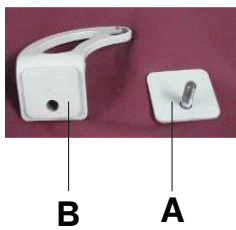
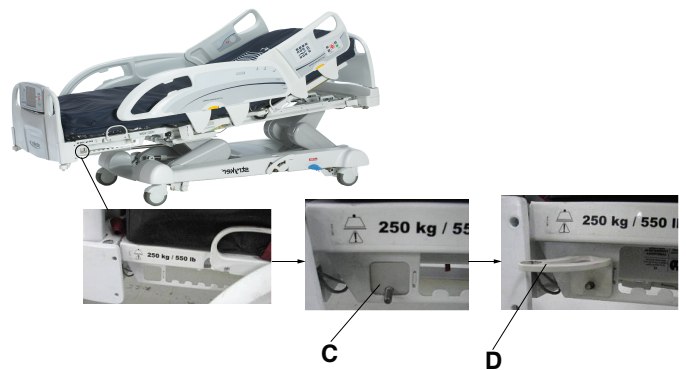

Figure 109 – Bracket and bracket back
Figure 110 – Attaching the bracket back and bracket
1. Attach the bracket back (A) and the bracket (B) (Figure 109) onto the end of the foot end foley bag hook at the foot end of the product (C and D) (Figure 110).